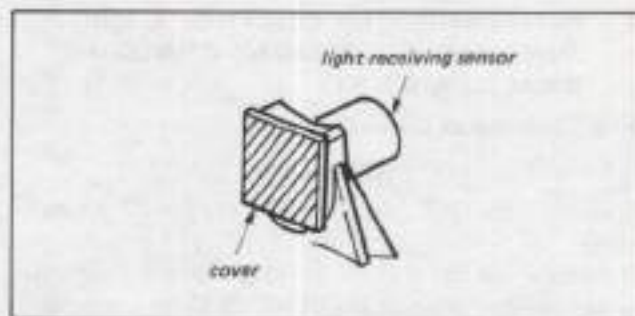

Fig. 2-45
- 1) Cover so that infrared rays do not enter the light-receiving sensor. (A 25φ piece will work.) (Fig. 2-45)